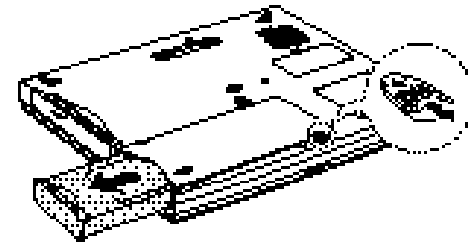

Figure 16. Removing the Battery Pack
3. Push down the battery latch and hold it, then pull the battery pack from the computer. (Figure 16)